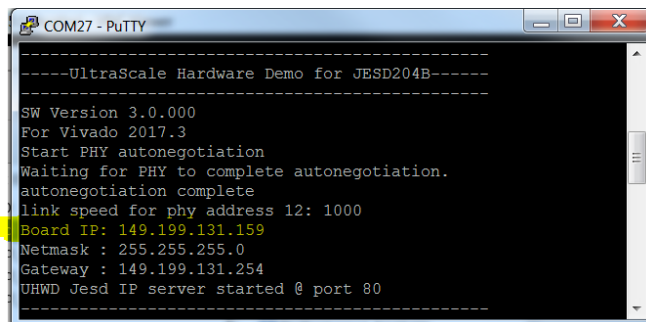

Figure 7 Board IP Address
- Take note of the BOARD IP address output from the UART to the status console (see Figure 7). This IP address must be used when connecting with the GUI.